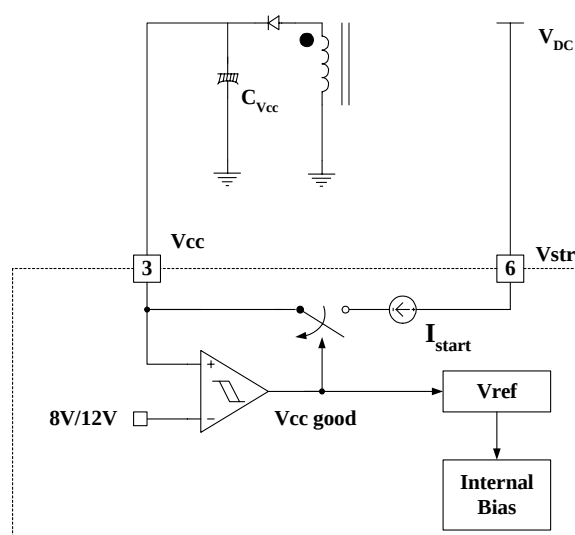

Figure 4. Internal startup circuit
1. Startup : In previous generations of Fairchild Power Switches (FPS™) the Vcc pin had an external start-up resistor to the DC input voltage line. In this generation the startup resistor is replaced by an internal high voltage current source. At startup, an internal high voltage current source supplies the internal bias and charges the external capacitor (C_{VCC}) that is connected to the Vcc pin as illustrated in Figure 4. When Vcc reaches 12V, the FSDM07652RB begins switching and the internal high voltage current source is disabled. Then, the FSDM07652RB continues its normal switching operation and the power is supplied from the auxiliary transformer winding unless Vcc goes below the stop voltage of 8V.